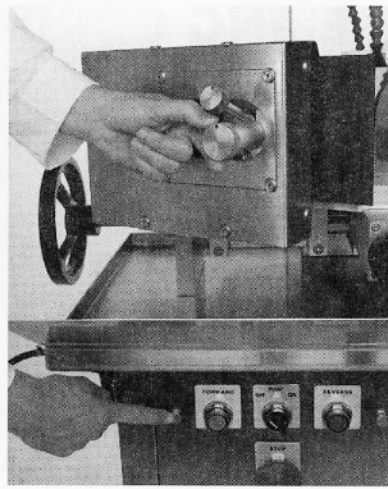

Fig. 12
4. Continue holding in the Dresser Button until you turn the Dresser Advancement Knob I click CLOCKWISE (see fig. 12). This moves the Diamond Dresser Bit into position for dressing the grinding wheel one time.